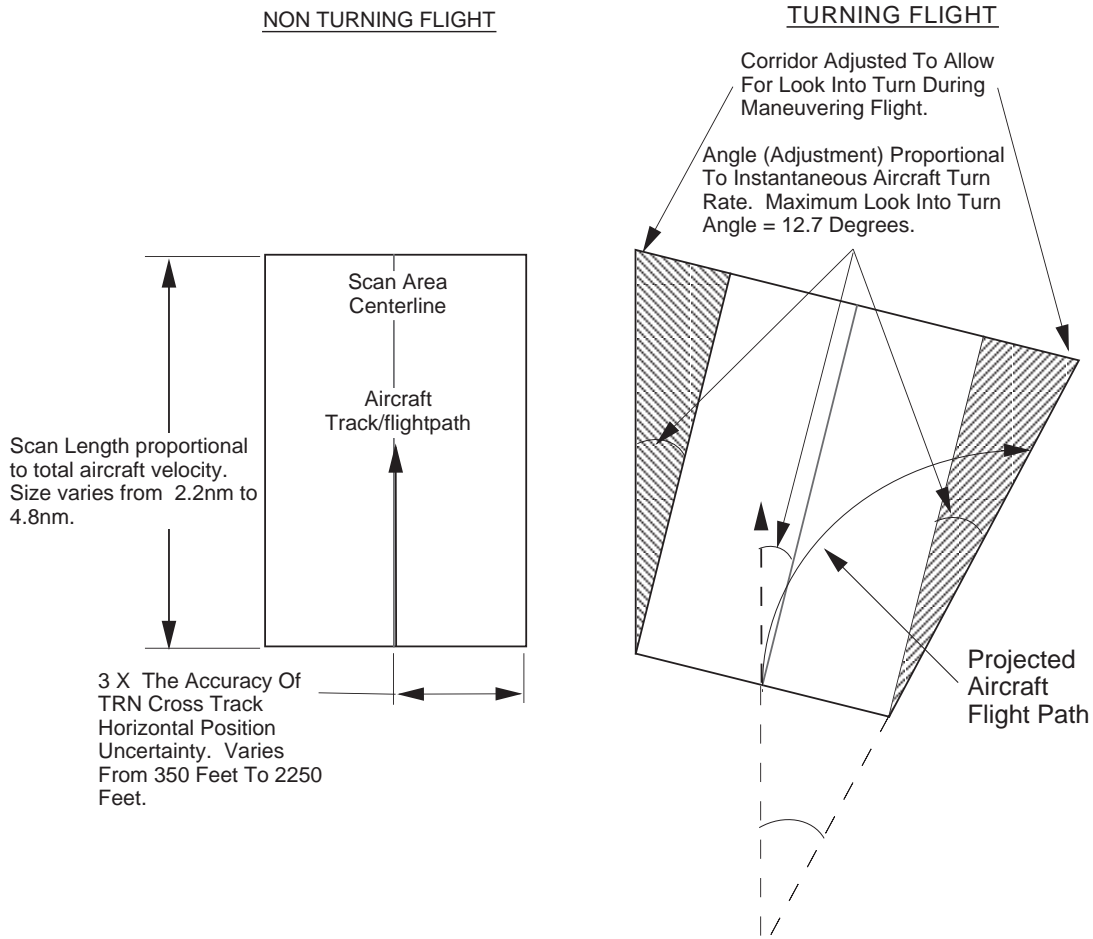

Figure 2-38 OW/C Scan Area
**Obstacle Warning and Cueing (OW/C).** The OW/C function provides the pilot with head-up display advisories of man-made obstacles along, or adjacent to the aircraft's flight path. OW/C's strength lies in its ability to advise of obstacles that either the pilot cannot see due to visual conditions (low setting sun, etc.) or that other sensors cannot detect. The OW/C function operates by scanning for obstructions in a trapezoidal shaped area of the DFM database ahead, left, and right of the F-16's current flight path as shown in Figure 2-38. The origin of the scanned area is the TRN estimated aircraft position in the data base. The length of the scanned area is 2.2 nautical miles and does not change with aircraft velocity. The width scan area is directly proportional to the HPU--- the lower the HPU the narrower the scan area. Seven degree wings extending from the base of the scan area to the leading edge complete the OW/C scan area. The wings provide a limited “look into turn” capability similar to the PGCAS scan area. The OW/C scan area is oriented along the current aircraft track during non-turning flight and is rotated into the direction of turn up to a maximum of 5.7 degrees to provide a total look into turn angle of 12.7 degrees. The DBTC Terrain Clearance Height (TCH), if the DBTC function has been selected or 500 feet if DBTC has not been selected, is added to the height of each obstacle located in the scanned area to achieve an "obstacle adjusted height".